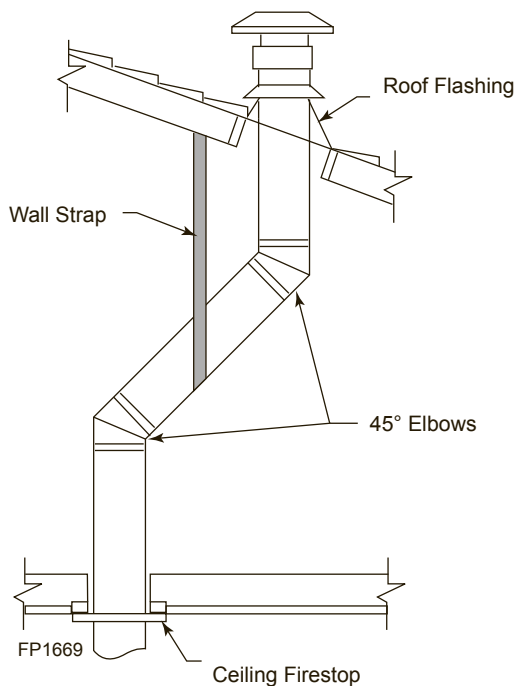

Figure 22 - Offset with Wall Strap and 45° Elbows
1. Determine the route your vertical venting will take. If ceiling joist, roof rafters or other framing will obstruct the venting system, consider an offset. Refer to Figure 22 to avoid cutting load bearing members.
NOTE: If an offset is needed to avoid obstructions, you must support the vent pipe every three (3) feet. Use wall straps for this purpose. *Page 18, Figure 22*. Whenever possible, use 45° elbows instead of 90° elbows. The 45° elbow offers less restriction to the flow of the flue gases and intake air.
5. Place the flashing over the pipe section(s) extending through the roof. Secure the base of the flashing to the roof and framing with roofing nails. Be sure roofing material overlaps the top edge of the flashing as shown in *Page 18, Figure 22*. There must be a 1" clearance from the vent pipe to combustible materials.